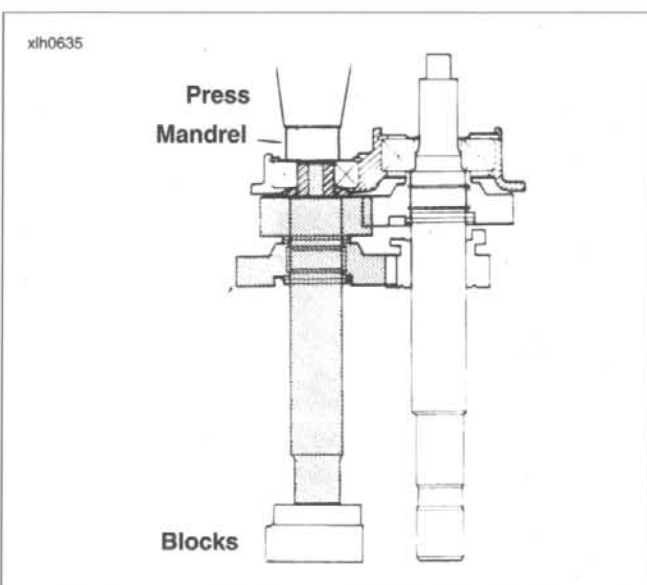

Figure 6-47.
9. See Figure 6-47. Stand countershaft assembly on press with beveled washer upward. Place access cover and mainshaft assembly on top of countershaft with bearing (1) in access cover over end of countershaft. Place a socket or section of pipe on inner race of bearing (1). Hold assembly straight, making sure gear teeth on countershaft are engaged with gear teeth on mainshaft, and press bearing onto shaft until beveled spacer bottoms against bearing.